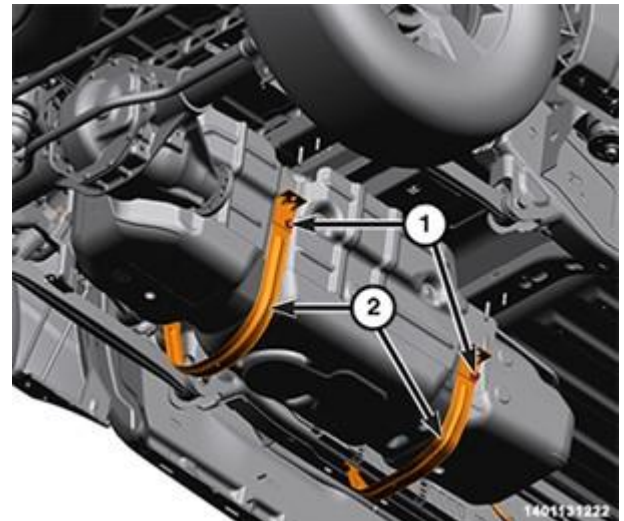

Figure 77 – Tank Straps
- 136. Remove the nuts (1) from the tank straps (Figure 77).
- 137. Remove both fuel tank straps (2) (Figure 77).